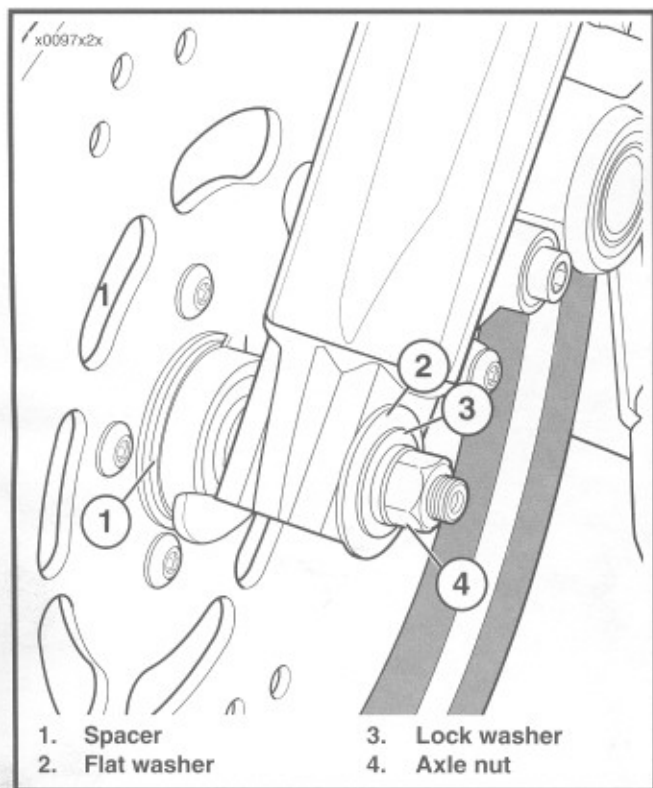

Figure 2-5. Install Spacer
2. See Figure 2-5. Push axle through left fork, until axle shoulder contacts external wheel spacer on right fork side.